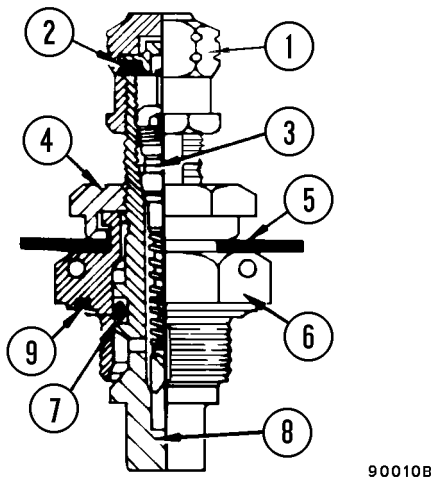

FIGURE 50-36. CHARGING VALVE
10. If removed, install charging valve assembly (11) onto gas valve manifold (14). Then tighten swivel nut (4, Figure 50-36) to **5 N·m (45 in lb)**.